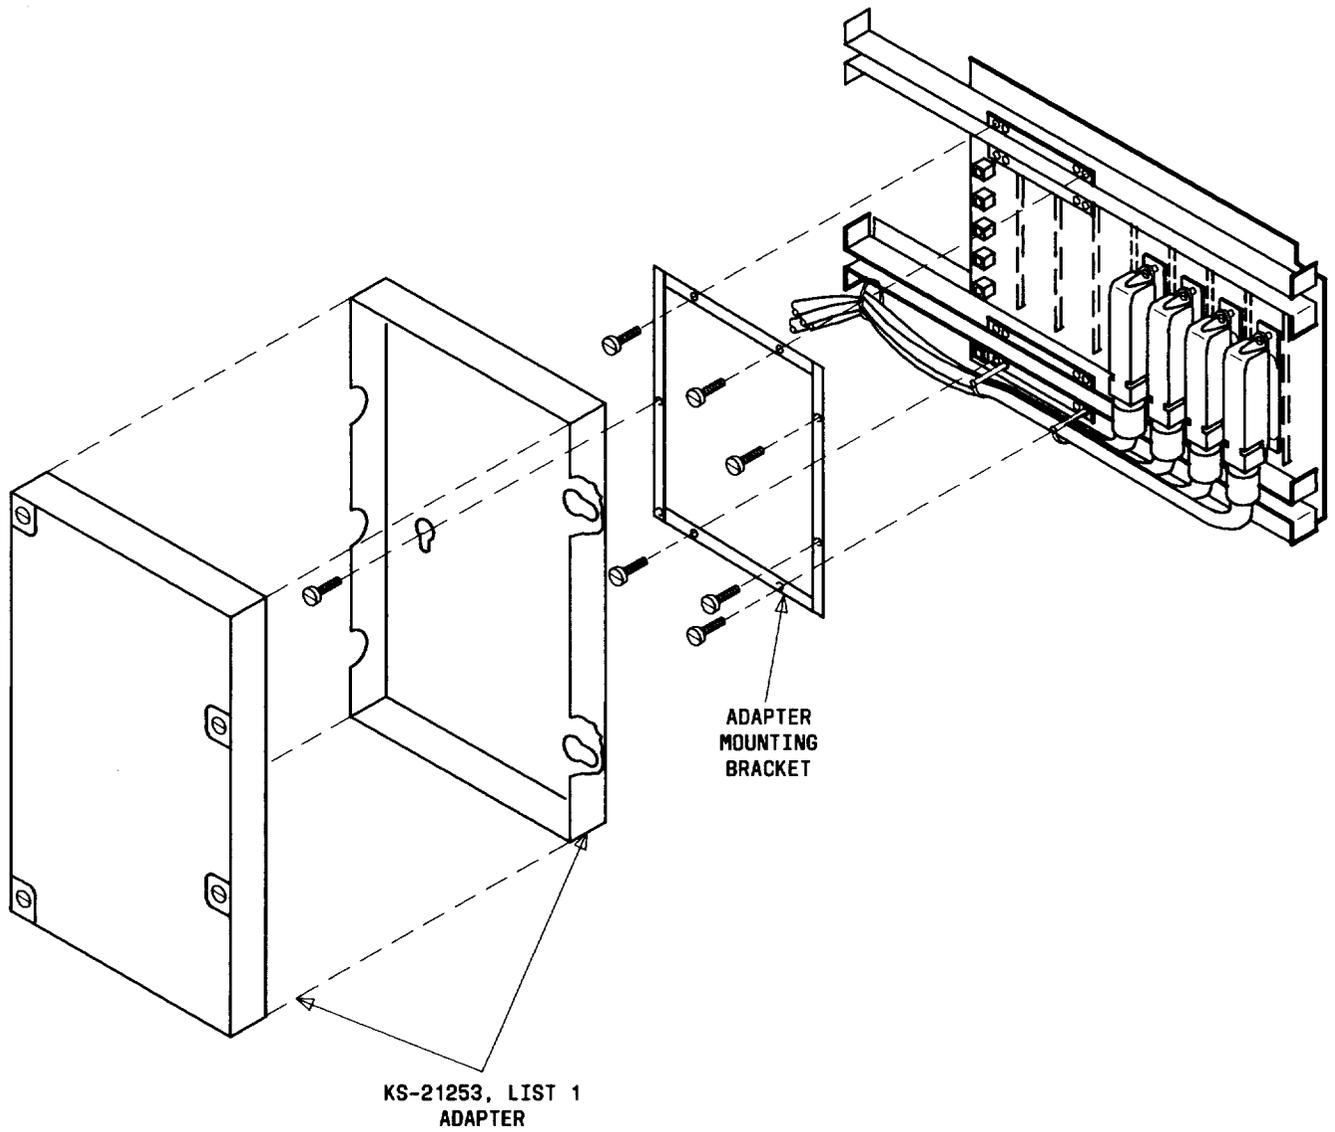

Fig. 6—Installing KS-21253, List 1 Adapter
- Install mounting bracket to the housing, as shown in Fig. 6, using four screws provided.